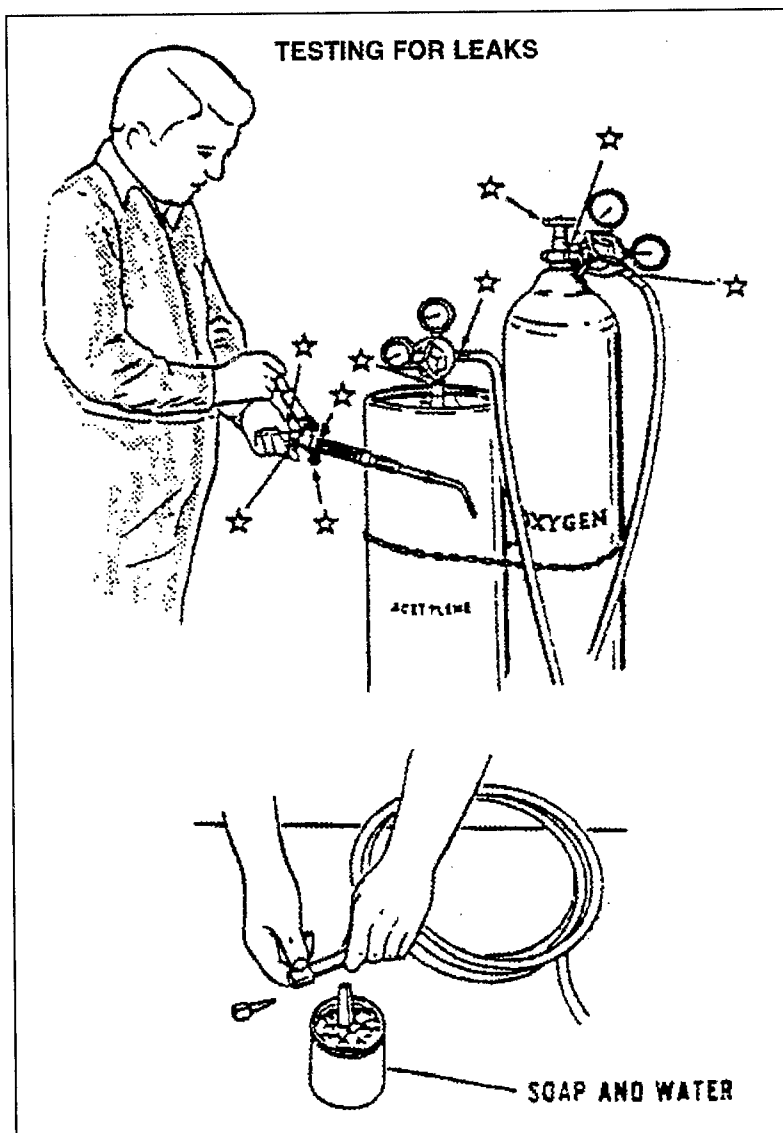

Figure 3-11 Checking Equipment for Leaks
- (1) The cutting tip recommended for most shipboard cutting is 2-56-62. This tip will cut most metal from 1/4 to 1 1/4 inch thick. Always use the proper size tip and working pressure for the work intended.
- (2) Cutting metal involves the selection of the proper torch cutting tip to suit the thickness of the metal, adjustment of the proper flame, and the manipulative skill of the operator. Thickness of the metal is the primary guide for selecting the proper tip. However, if rust, scale, or paint is heavy, a larger tip is required, since these surfaces present greater resistance to the preheating flame. The use of oversize cutting tips and excessive pressure is not economical. **See Table 3-3** for cutting tip sizes and gas pressures for various thickness of metals (in inches).
- a. Oxygen and acetylene gas cylinders, pipelines, valves, regulators, hose and torch connections should be checked carefully for leaks. Large leaks can be heard. Leaks between cylinder or pipeline and torch may be detected by closing the valves. If the high pressure gauge recedes, you will know that your equipment is leaking. Do not operate any cutting equipment until you are sure there are no leaks (See **Figure 3-11**). Never use a match or flame to find a leak. Ensure that all connections are wrench tight.